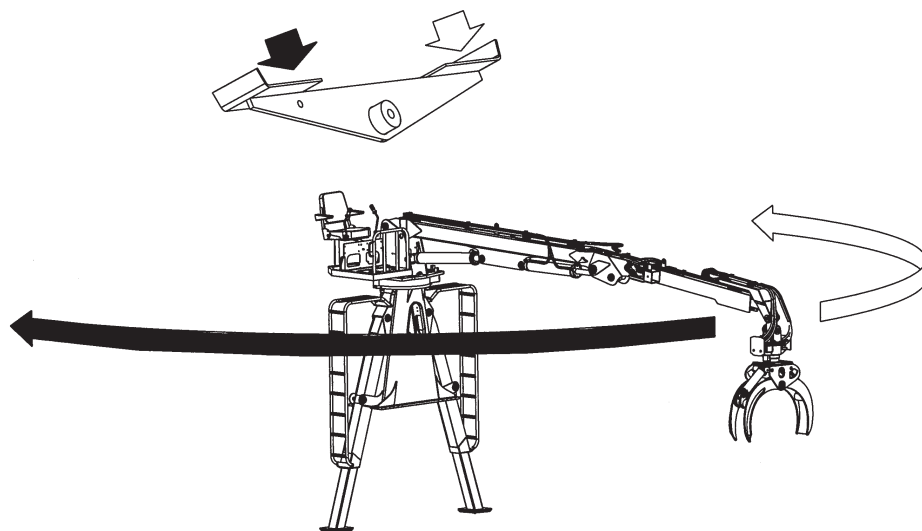

Figure 8 - Swing control pedal operation
- The loader swings to the **right** when you press the swing control pedal down on the **right** side (see *Figure 8*, below).
The loader swings to the **left** when you press the swing control pedal down on the **left** side (see *Figure 8*, above).